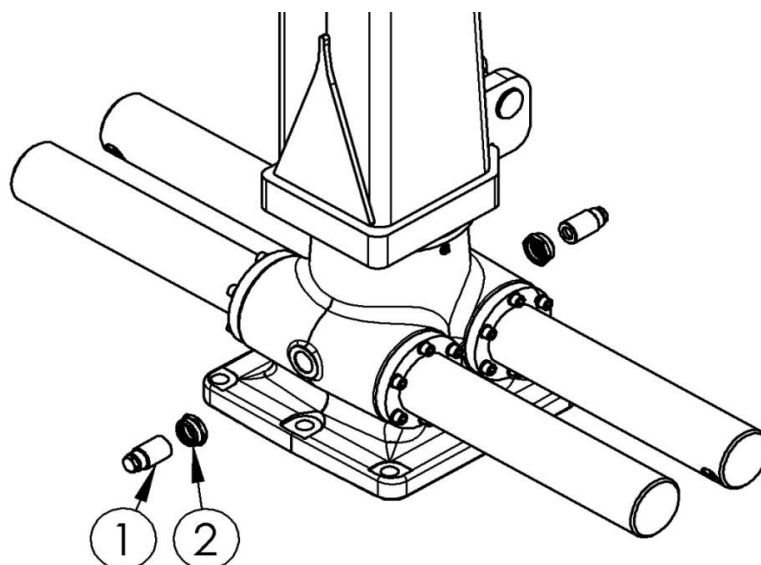

Figure 12. *Adjusting racks of slewing device*
- Release the locking nut widely enough, so it will not obstruct tightening (pos. 2 fig. 12).
- Tighten the bolt (pos. 1, fig. 12) against the gear rack with 20-25 Nm (2-2,5 kg*m).
- Tighten the locking nut (pos. 2 fig. 12).
2. Ensure that the slewing device is in horizontal position, as shown on fig. 12.
3. Release the lock nut (pos. 2, fig. 12).
4. Remove the bolt (pos. 1, fig. 12).
7. Tighten the lock nut according to manual's point 9.2 (pos. 2, fig. 12).